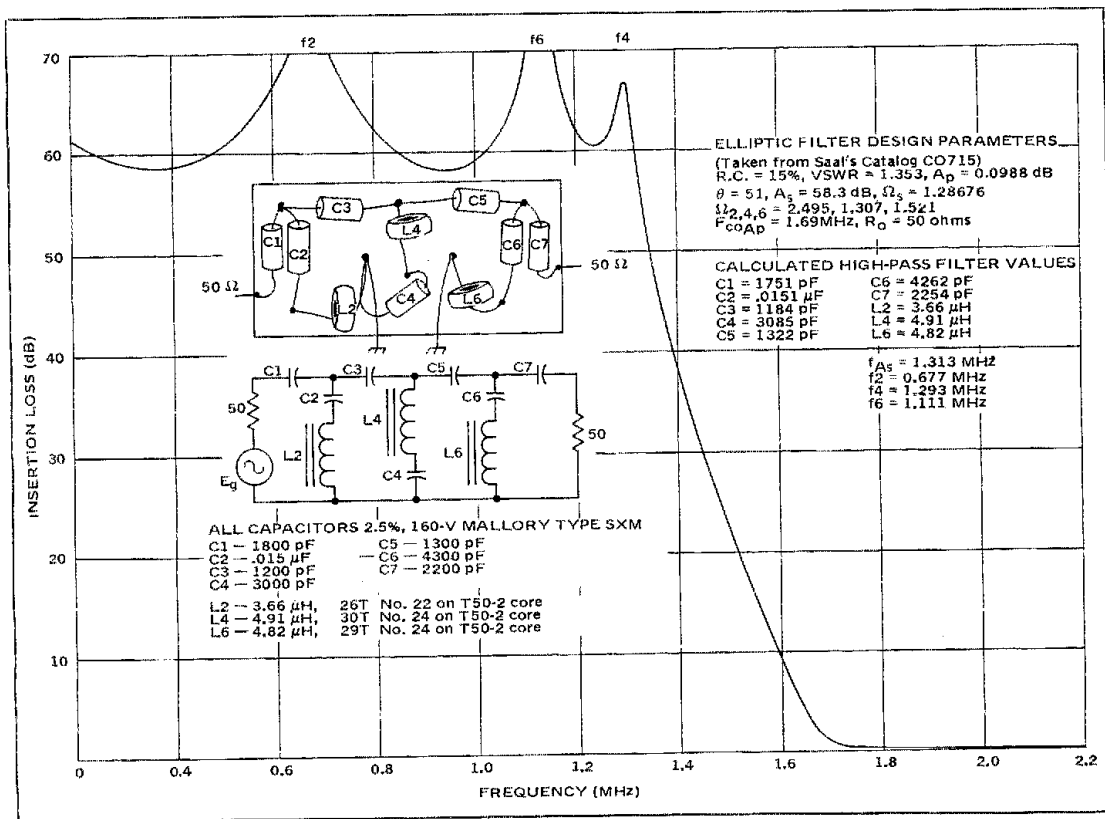

Fig. 1 — Filter-response curve, insertion loss, layout and schematic diagram. Terminal impedance is 50 ohms for this 1.7-MHz, high-pass filter.
requires tuning, but if this can be accomplished with the use of close-tolerance, standard capacitor values, the tuning should present no problem. One of the design parameters of the elliptic filter is  $A_s$ , the value of the minimum stop-band attenuation in dB. In the references used,3,4 the  $A_s$  ranges from 2.65 to 133 dB in increments of several dB. For this particular application, the C0715 filter-catalog listings between  $A_s = 52$  to 90 dB were of interest. The "C0715" of the filter catalog heading signifies a filter with Caer (or elliptic) parameters of degree "n" = 7, and a reflection coefficient of 15 percent (equivalent to a VSWR of 1.353). The degree n = 7 is equal to the number of elements in the Chebyshev filter to which the Caer filter is related. All Chebyshev filters are Caer filters with  $A_s = \text{infinity}$ . Consequently, the Chebyshev filter has no stop-band ripples as does the Caer, and a finite value of  $A_s$ , three capacitors are added to series tune inductors L2, L4 and L6 of the filter shown in Fig. 1. The total number of elements in the Caer filter is thus 10.
52.8 and 91.7 dB. The extremes of this range were considered as the minimum and maximum acceptable values of  $A_s$ . A computer data file (no. 1) was assembled in which the normalized values of C1-C7, inclusive, and L2, L4 and L6 were listed for each of the 25 values of  $A_s$ . Another data file (no. 2) was assembled containing the capacitor values of the Mallory SXM polystyrene series (2.5 percent at 160 V). A computer program was then used to evaluate each normalized catalog listing in data file no. 1 for a cutoff frequency of 1.6 to 1.75 MHz in increments of 0.1 MHz. The computer was programmed to print out only those designs in which all capacitor values were within  $\pm 3$  percent of the standard values in data file no. 2. Of those designs printed out by the computer, the one design believed to be most suitable was selected for construction. The parameters of the selected design are listed in Fig. 1 along with the calculated component values. Although the  $A_s$  value was less than the desired 60 dB, it was high enough (58.3 dB) to be adequate for the application.
and response curve, the component values used, and the toroidal-inductor winding specifications are all shown in Fig. 1. The design parameters and the calculated filter component values and other calculated parameters are shown in the upper right-hand corner of Fig. 1. The standard-value capacitors used are listed under the filter schematic diagram. Note that all standard values are within 2.8 percent of the design values. Since the maximum deviation between the actual capacitance used and the design value will be only 5.3 percent, there should be little or no difficulty in obtaining the desired response. If the attenuation peaks ( $f_2$ ,  $f_4$  and  $f_6$ ) at 0.677, 1.293 and 1.111 MHz are not obtained, a slight squeezing or separating of the toroidal-inductor windings should be all that is required to tune the series-resonant circuits. Note that series circuit C6-L6 should resonate at  $f_6 = 1.111$  MHz, but from the response curve it actually resonated at about 1.130 MHz. This frequency error of about 2 percent is small enough to ignore. The  $A_s$  value was selected to be 58.3 dB, and examination of the response curve shows the measured filter response to be in good agreement. The measured values of cutoff frequency (at the attenuation